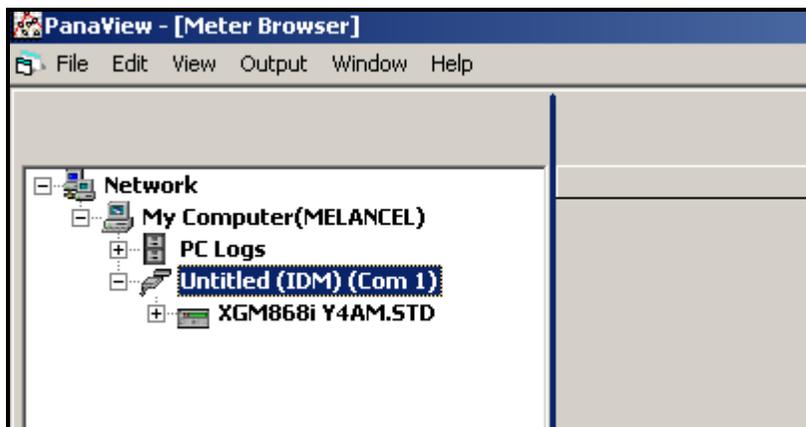
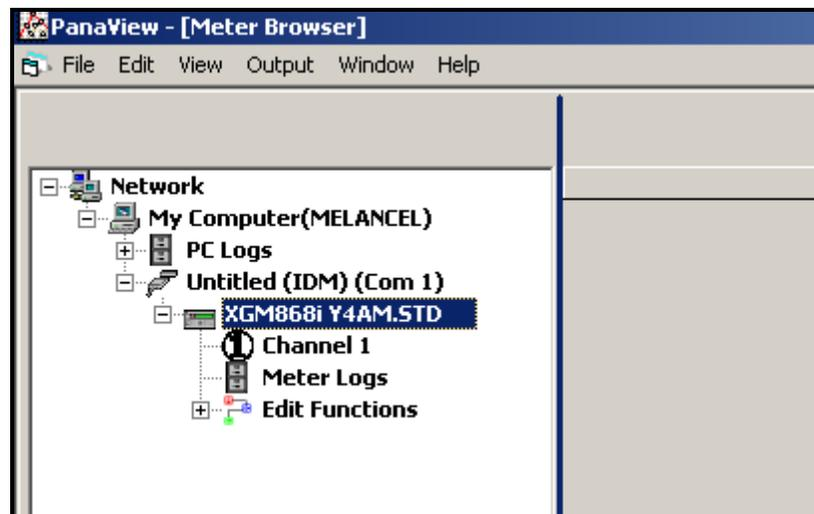

Figure C-6: The Updated Network Tree
Figure C-8: Meter Tree with *Edit Functions* Option
If the initialization is successful, the *Meter Browser* shows a listing similar to Figure C-6 below.
1. From the meter tree in the *New Meter Browser* (shown in Figure C-6 on the previous page), click on the XGM entry. The screen now appears similar to Figure C-8 below.